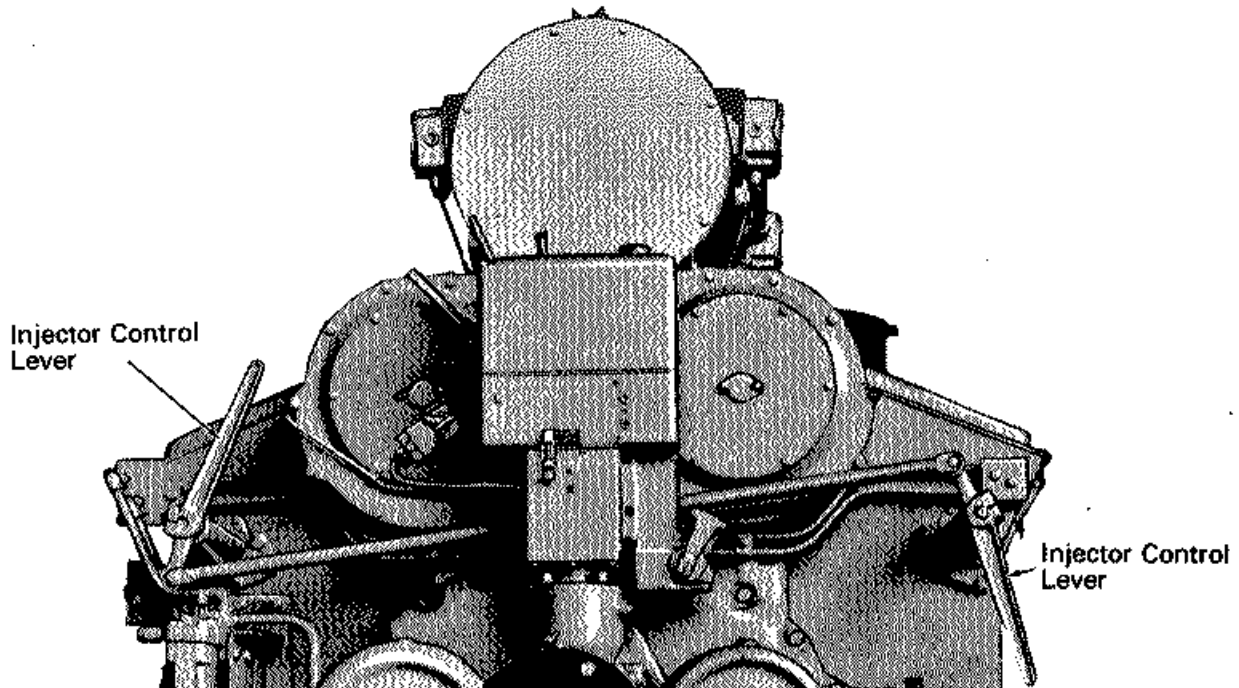

Fig. C-1 - Injector Control Lever
1. Position the injector control lever, Fig.C-1, toward the center of the engine at about one-third rack (idle position).